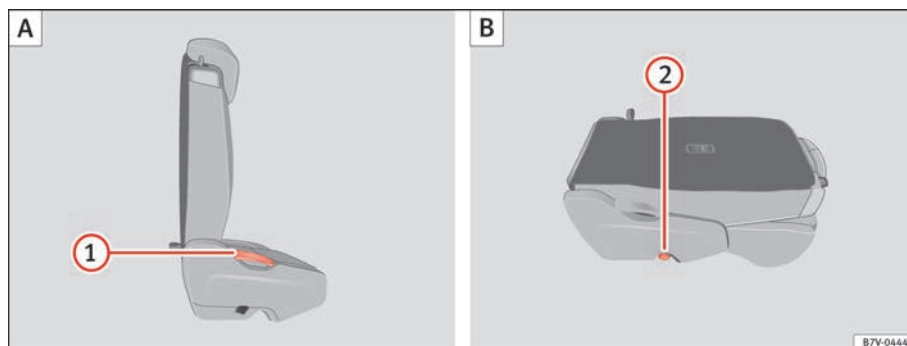

Fig. 89 Second row of seats: folding the rear seat (A), rear seat as load space (B).
- Remove objects from the footrest area in front of and behind the rear seat ⇒ ①.
- Pull lever ⇒ fig. 89 ① back and fold the backrest forwards. The complete rear seat folds forward ⇒ ⚠.
- Pull lever ⇒ fig. 89 ① upwards and place the seatback in vertical position. The entire seat folds backwards.